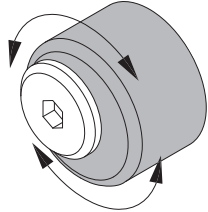

Figure 4
1. To rotate, loosen the JC bolt slightly with a 4mm hex wrench. **Figure 4.**